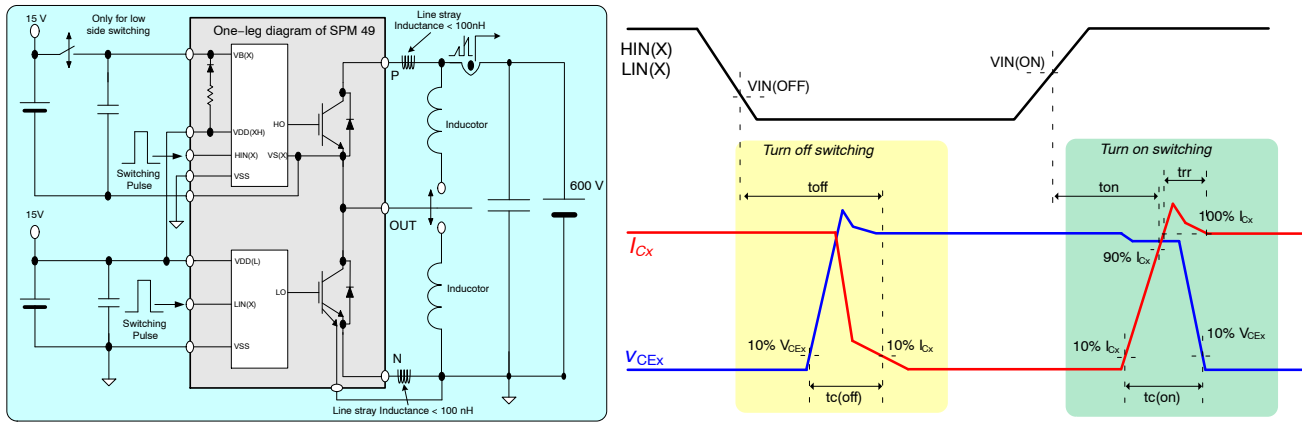

Figure 11. Switching Evaluation Circuit and Switching Time Definition
4.  $t_{on}$  and  $t_{off}$  include the propagation delay time of the internal drive IC.  $t_{c(on)}$  and  $t_{c(off)}$  are the switching time of IGBT itself under the given gate driving condition internally. For the detail information, please refer to Figure 11.